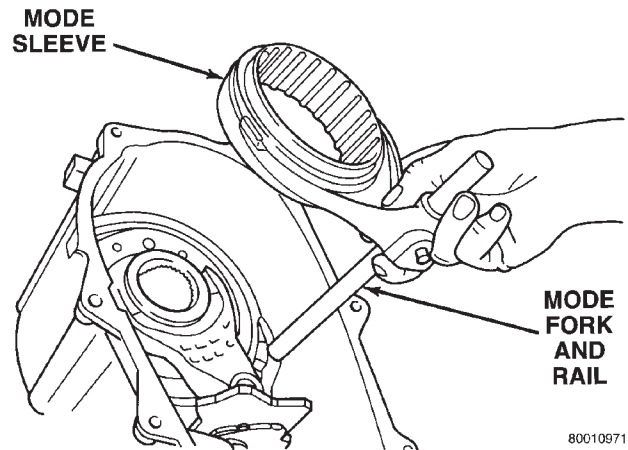

Fig. 26 Mode Fork And Sleeve Removal
(2) Remove mode fork and sleeve as assembly (Fig. 26). Note position of sleeve for assembly installation (short side of sleeve faces up).